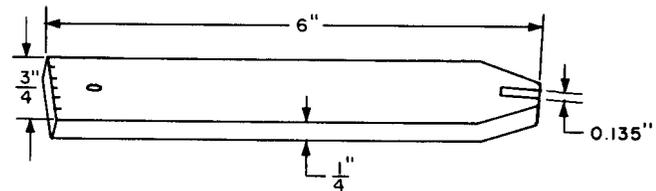

Fig. 19—606A Adjuster Tool
2.20 606A: The 606A tool (Fig. 19) is an armature tab adjuster used on 263- and 264-type relays.